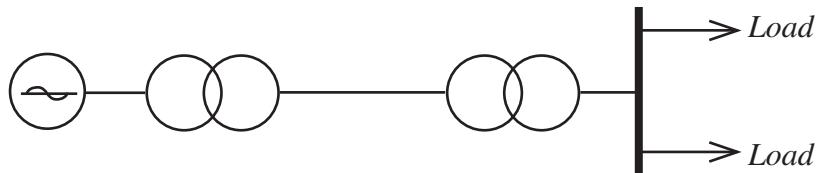
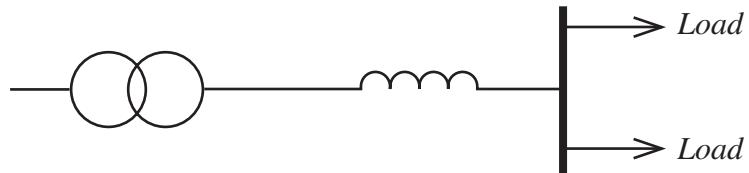

FIG. 1
FIG. 2
- (ii) On what assumptions is the representation of the following simple load supply system (FIGURE 1) based?
- (iii) In what way does it differ from the radial supply system shown in FIGURE 2?
- (iv) In FIGURE 1, the first transformer steps up the voltage and the second steps down the voltage. State the reason or reasons why you think this is done.
6. Compare FIGURES 2 and 4 from lesson ESD - 2 - 2 (reproduced here) with those of FIGURES 1 and 8 from lesson ESD - 3 - 2 (also reproduced) and state briefly why they are similar.
FIG. 2 from ESD - 2 - 2 (reproduced)
FIG. 1 from ESD - 3 - 2 (reproduced)